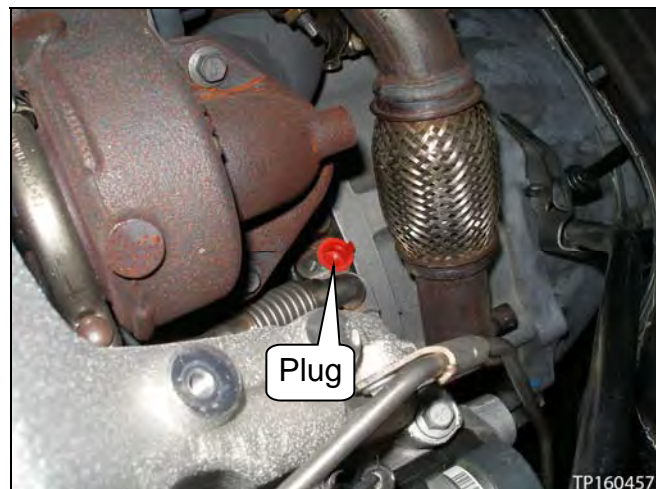

Figure 20
e. Install a plug into the oil dipstick tube's engine block hole (see Figure 20).